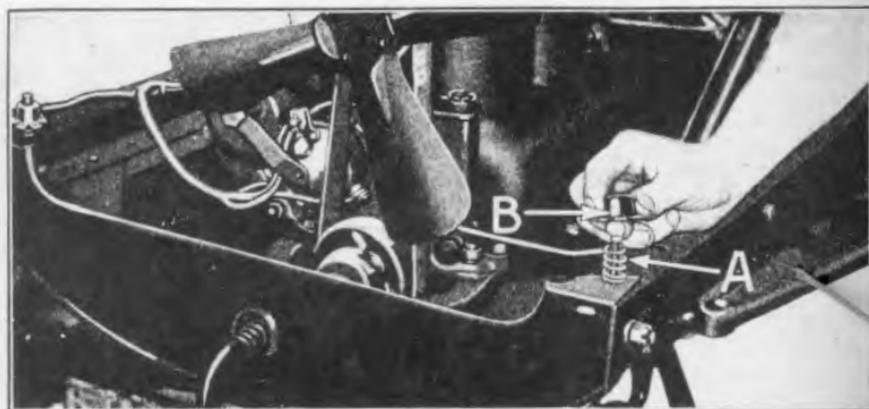

Fig. 102
- (a) Insert radiator stud spring (See "A" Fig. 102), and lower thimble "B" over radiator studs.